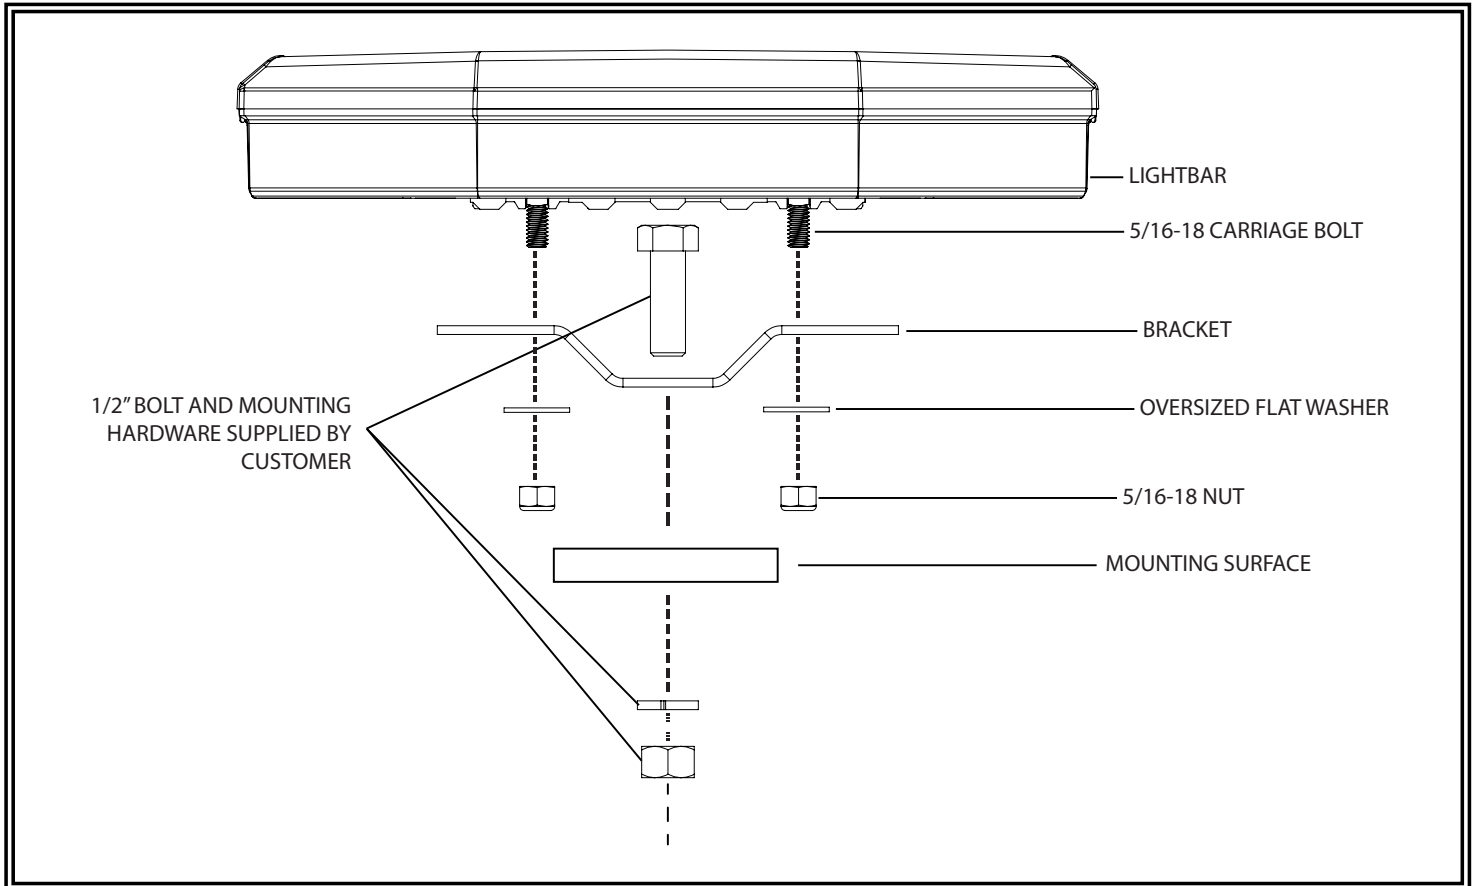

FIGURE 5
1. Insert the four (4) 5/16"-18 carriage bolts in the channels on the under side of the lightbar and loosely attach the mounting brackets.
5. Mount the lightbar with the customer supplied bolts going through the brackets and holes drilled in the prior step. See FIGURE 5. Install customer supplied washers and nuts, and secure the unit.